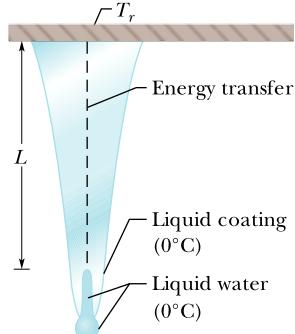

Figure 18.32 Problem 78.
- 78 CALC GO FCP** **Icicles.** Liquid water coats an active (growing) icicle and extends up a short, narrow tube along the central axis (Fig. 18.32). Because the water–ice interface must have a temperature of 0°C , the water in the tube cannot lose energy